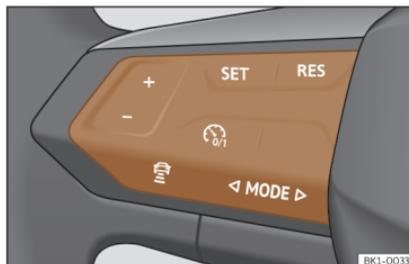

Fig. 103 On the multifunction steering wheel: buttons to operate the ACC
- To start regulation, press the button **SET** >>> **Fig. 103**.
>>> **Fig. 103** buttons to the desired speed. The speed is adjusted at intervals of 10 km/h (5 mph).
- Press the button  and then the button + or –>>> **Fig. 103**.